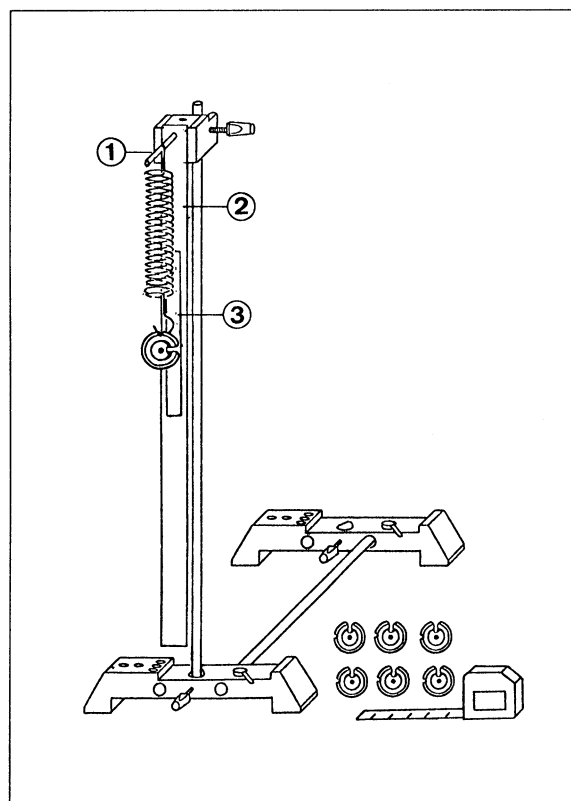

Fig. 1 Experimental setup for investigating the elongation of a helical spring:
1. Assemble the stand bases and stand rods as shown in fig. 1.
4. Hang the helical spring (1) from the spindle, in front of the leaf spring.